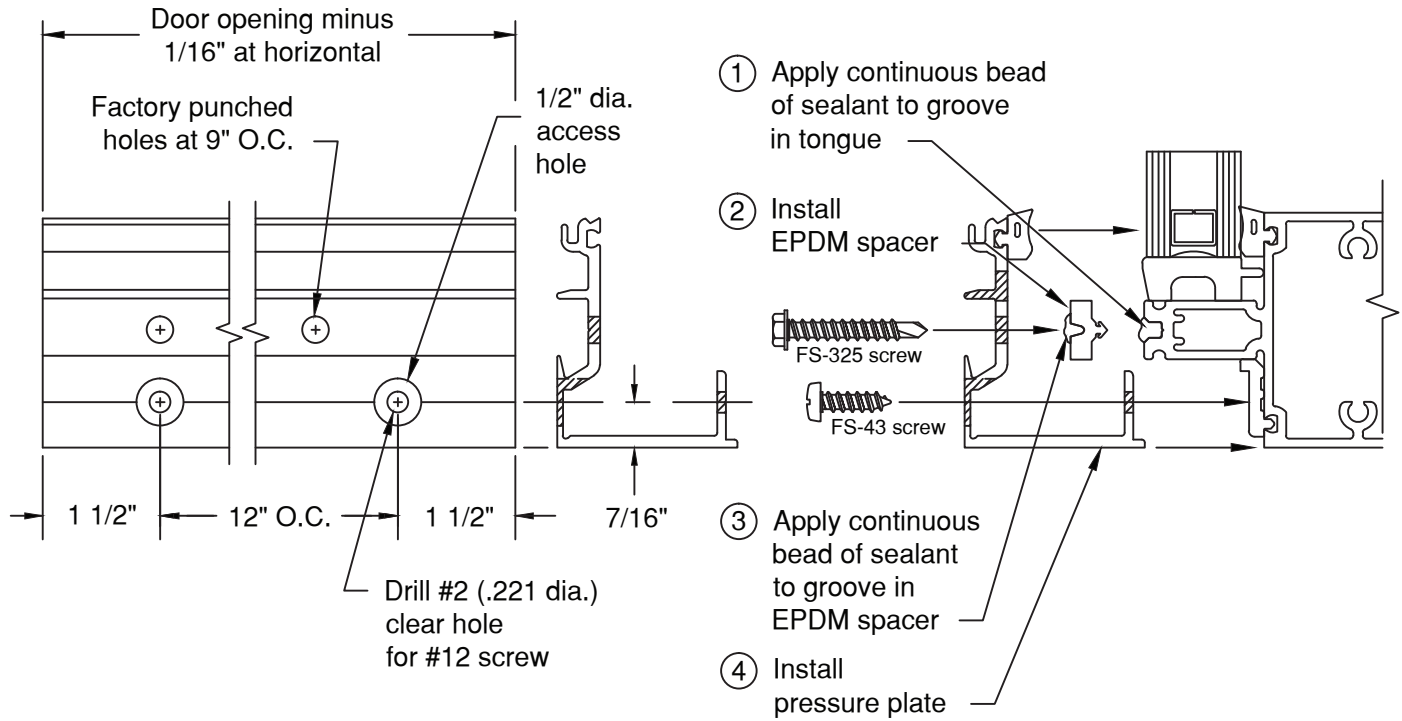

FIGURE 42
All door framing components are shipped fabricated from the factory. The main curtain wall framing can be erected prior to installing the doors. Depending on the subframe used, lites adjacent to doors must be temporarily secured in place until door framing is installed. Refer to FIGURE 42, page 17 for door header fabrication and installation instructions.
C.3.4 Apply continuous seal to horizontal tongue before installing horizontal pressure plate. Seal ends of horizontal pressure plate to the vertical pressure plates. **SEE FIGURE 42.**